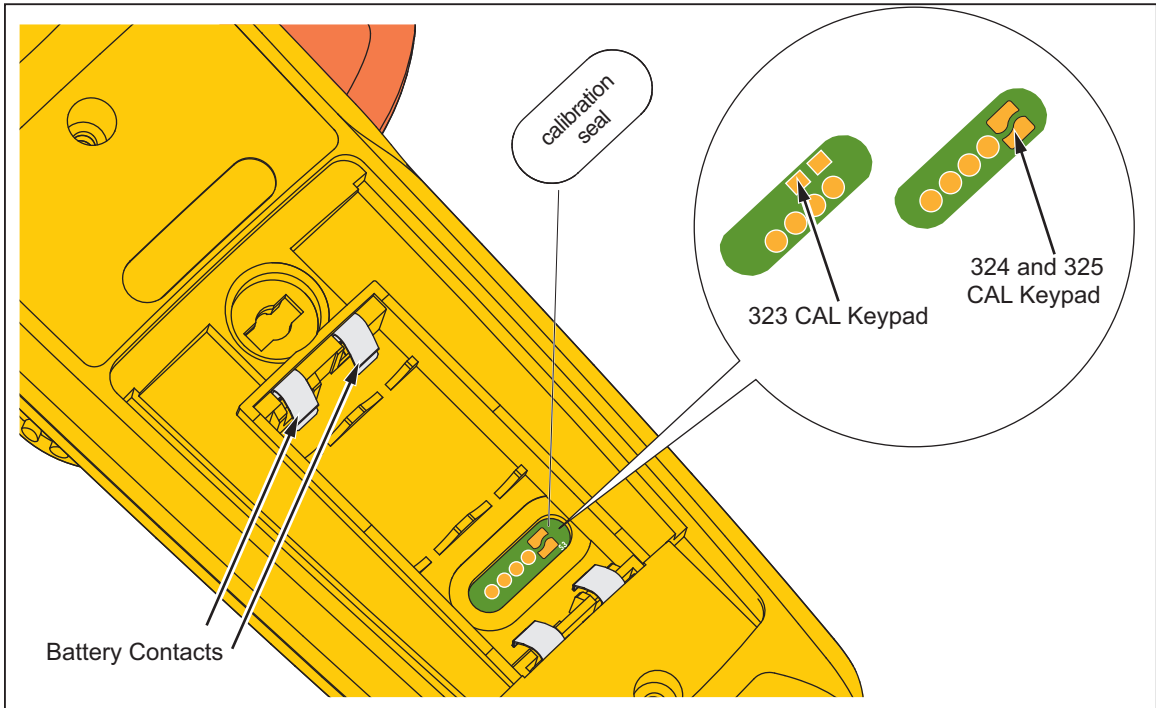

Figure 6. Short the CAL Keypad
2. Apply 3.0 V across the battery contacts on the pca. Note the polarity that is shown in Figure 6.
5. Short across the CAL keypad on the pca and then remove the short. See Figure 6. This puts the Product into calibration mode.
3. After 20 minutes, with the Product still connected to the 3.0 V, turn on the Product and short across the CAL keypad on the pca. See Figure 6.